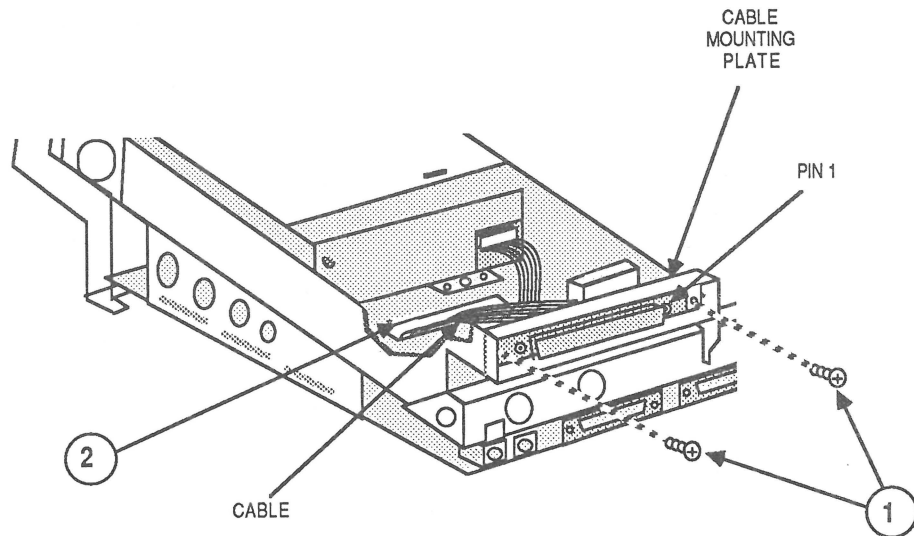

FIGURE 2
6. Stand the Macintosh SE upright so that the back is toward you. Position the mounting plate on the SE-Bus PC Card cable so that the 37-pin connector is facing you, and pin 1 is on the right (see Figure 2; the pin numbers are on the face of the connector). Mount the plate inside the chassis with the two Phillips screws (Figure 2, #1).
7. Route the 26-pin connector on the cable through the rectangular hole (Figure 2, #2) in the chassis bottom, and place the Macintosh SE face down.